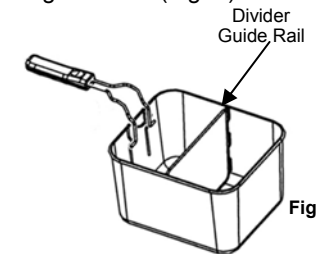

Fig. 5
- Place the divider in the guide rails of the large basket. (Fig. 5)